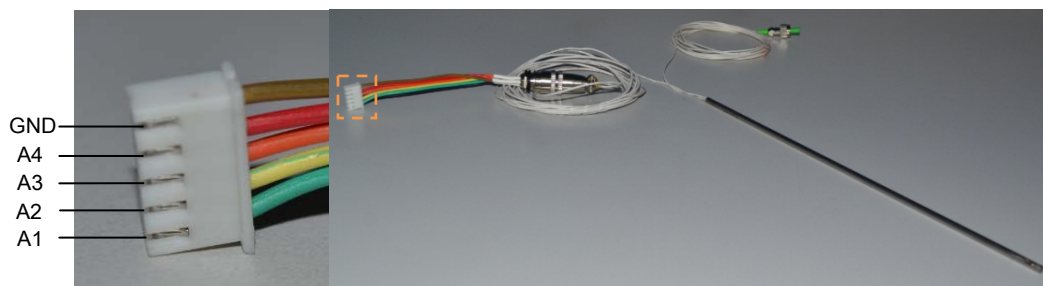

Fig. 2 Electrical interface of the probe
1) Before using the probe, check the electrical resistances of the four terminals (A1/A2/A3/A4), as shown in Fig. 2, ensuring that the electrical resistances are all in the normal range ( $100\Omega$ - $500\Omega$ ). A digital multimeter can be used. Note that the terminal linked to the brown line is Ground. The resistance should be measured between one of A1-A4 terminals and Ground.